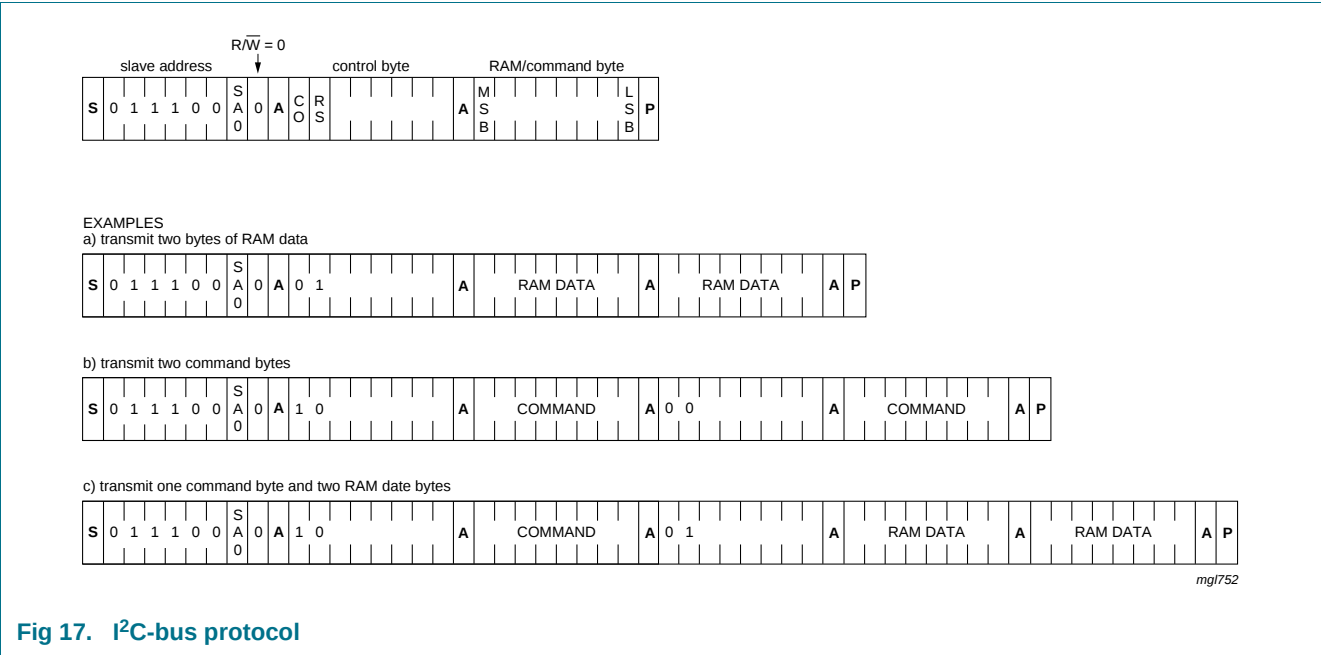

Fig 17. I²C-bus protocol
The I²C-bus protocol is shown in Figure 17. The sequence is initiated with a START condition (S) from the I²C-bus master which is followed by one of the available PCF85133 slave addresses. All PCF85133 with the same SA0 level acknowledge in parallel to the slave address. All PCF85133 with the alternative SA0 level ignore the whole I²C-bus transfer.
After acknowledgement, the control byte is sent, defining if the next byte is a RAM or command information. The control byte also defines if the next byte is a control byte or further RAM or command data (see Figure 18 and Figure 17). In this way it is possible to configure the device and then fill the display RAM with little overhead.